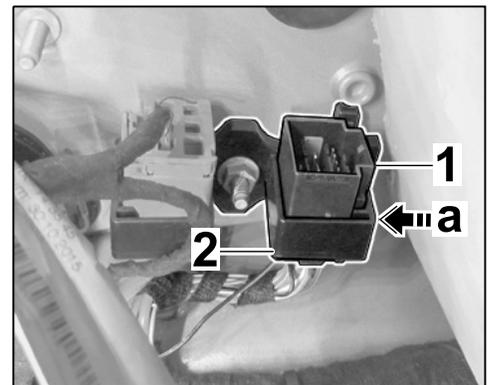

Figure 5
- 2.3.2 Release pin connector socket ⇒ *Figure 5-1-* (⇒ *Figure 5 -a-*) and pull it down out of the holder ⇒ *Figure 5-2-*.